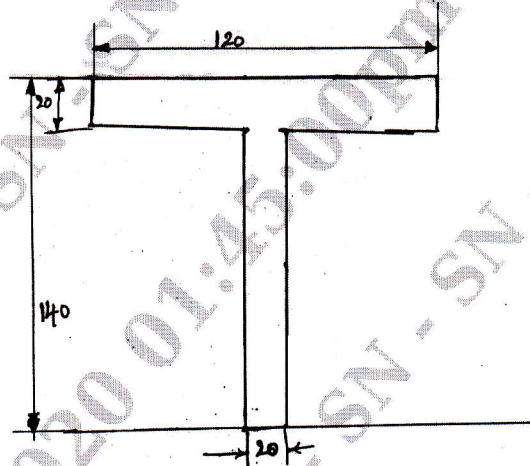

Fig Q6(b)
b. A cast iron beam is T section shown in Fig Q6(b) is used as a simply supported beam over a span of 4 meters. It carries an uniformly distributed load 8 kN/m^2 over its entire span. Determine the maximum tensile and compressive stresses.